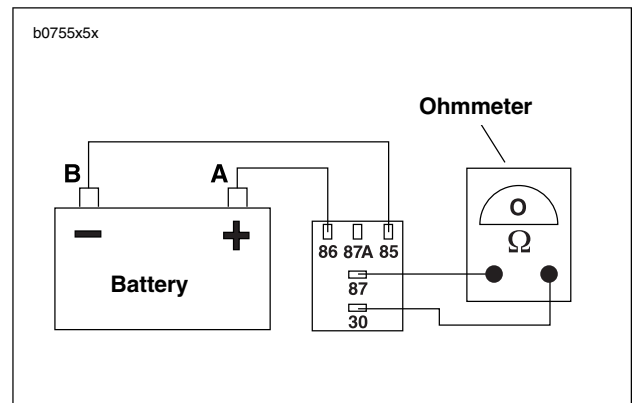

Figure 5-6. Starter Relay Test
3. See Figure 5-6. Obtain a 12 volt battery and a continuity tester or ohmmeter.